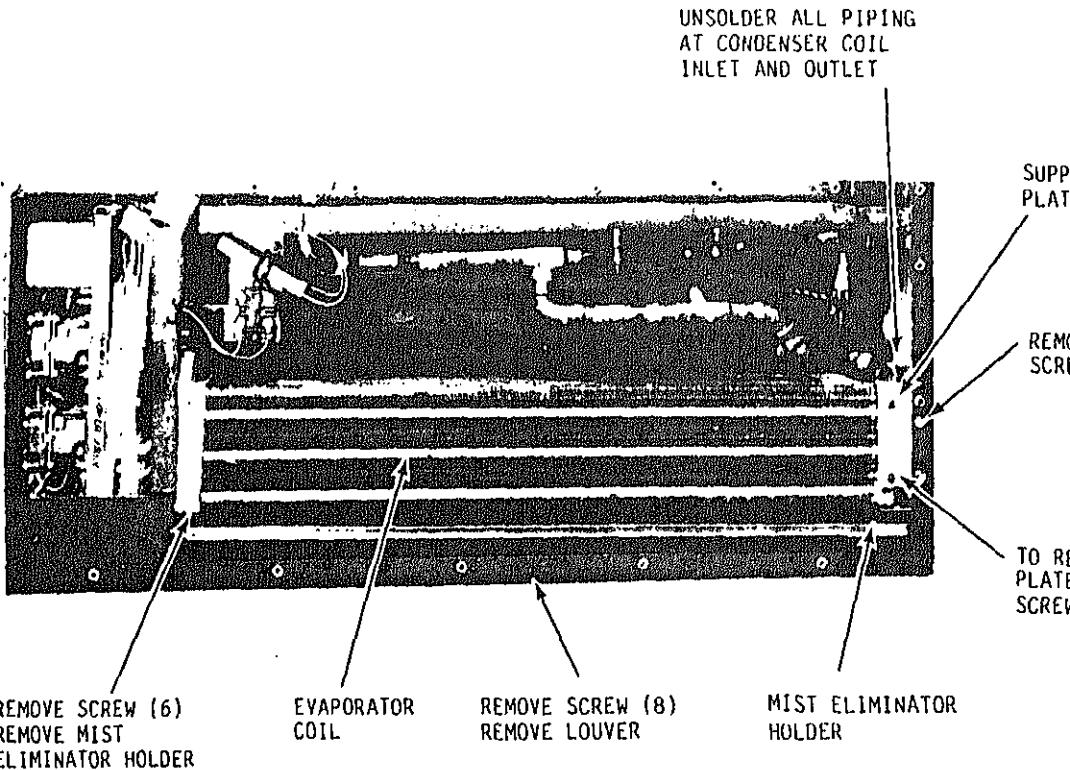

Figure 5-3. Evaporator coil and mist eliminator holder, removal and install.
(4) Refer to para 4-30 and remove heating elements.
(5) Refer to figure 5-3 and remove support plate that holds coil housing.
(6) Refer to figure 5-3 and disconnect tubing from evaporator coil.
(7) Remove six screws, washers, lockwashers that hold evaporator coil and mist eliminator holders to air conditioner. Remove holders and coil.
(2) Refer to figure 5-3 and install coil support plate.
(3) Connect tubing to coil. Leak test as described in 5-6.